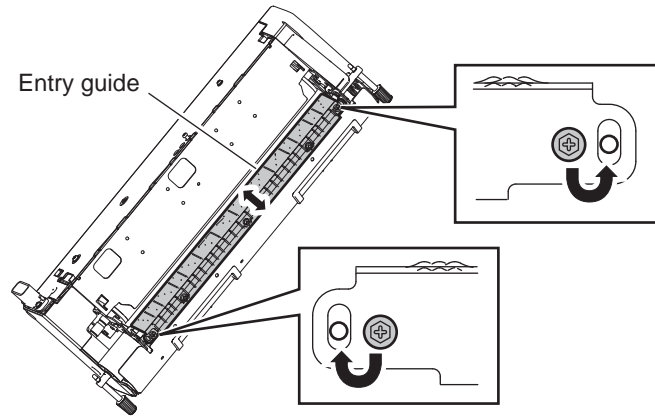

Fig.8-34
1. Adjust the installed position of the fuser unit up or down and check if the paper wrinkle disappears. (See (26) "White void in the halftone".)
2. Adjust the inlet guide of the fuser unit and check if the paper wrinkle disappears. (Fig.8-34)